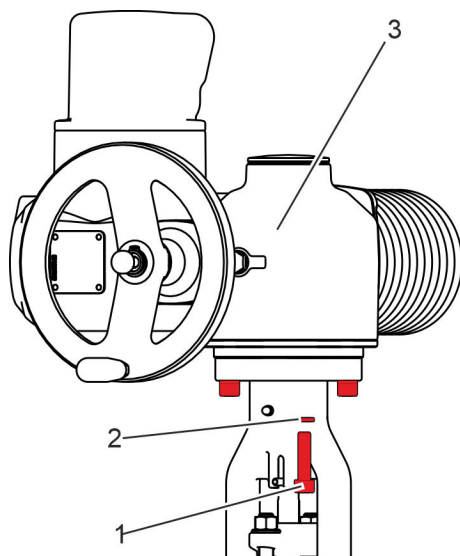

Fig. 40: Fastening the electric actuator
10. ➔ Fasten the actuator (Fig. 40/3) to the bonnet using screws (Fig. 40/1) and washers (Fig. 40/2).
Tighten the screws (Fig. 40/1) as specified by the manufacturer.